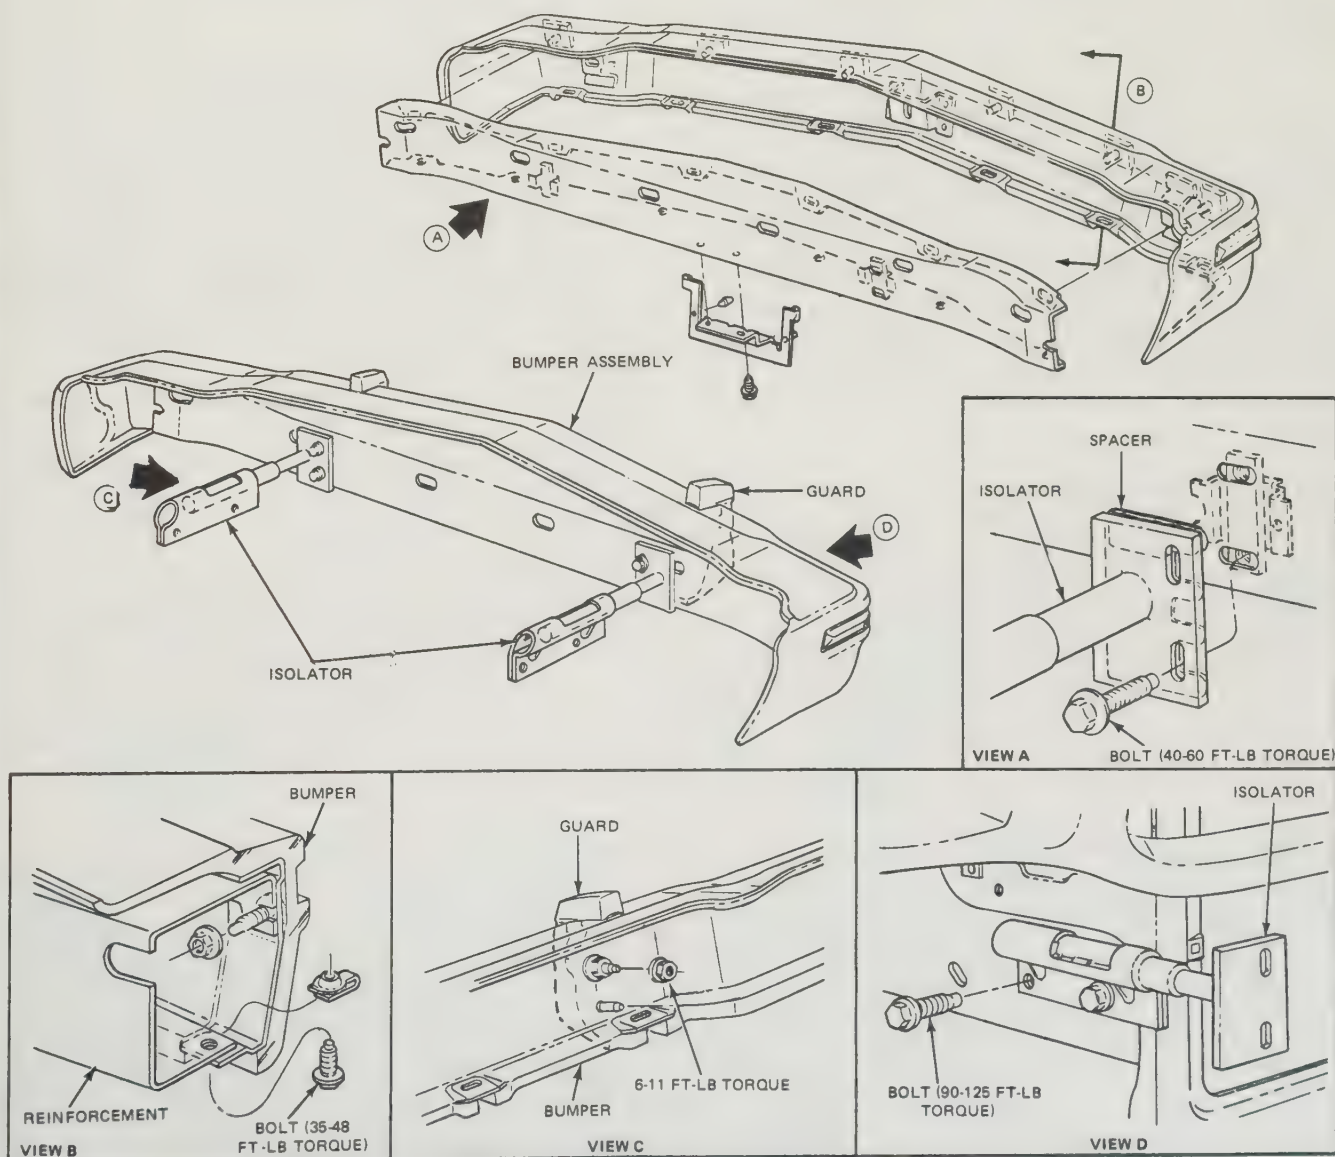

Fig. 12.21. Front bumper assembly (Sec. 39)
- 1 Undo the four bolts retaining the bumper reinforcement plate to the isolators (see Fig. 12.21 and 12.22), and withdraw the bumper assembly from the car.